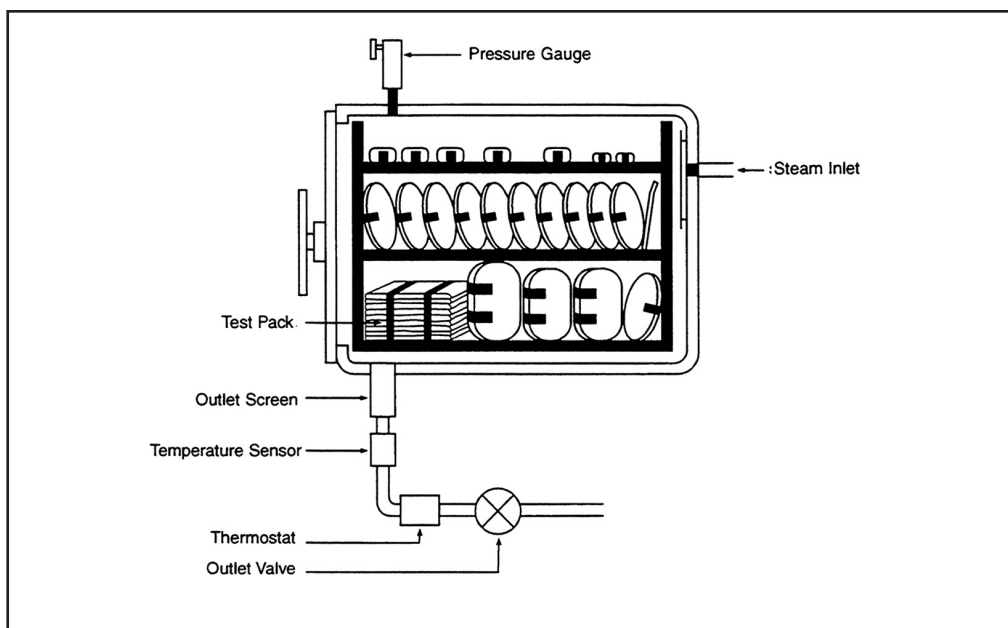

Figure 3. Positioning of the 16-towel biological indicator test pack for routine biological monitoring.
- **ROUTINE TESTING AND LOADS WITH IMPLANTABLES** - Place the pack on the sterilizer shelf in a fully loaded chamber, over the drain. Position the pack so that the layers of towels are sitting flat, one upon the other, for a greater challenge (Figure 3).